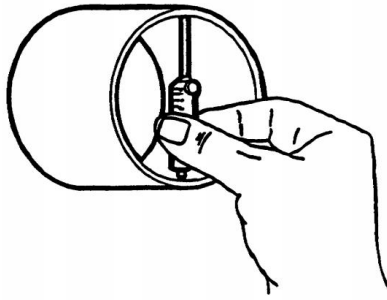

Fig 8
Now, look at the thimble scale. Find the line on the thimble scale that lines up with or has passed the revolution line in the barrel. In figure 8, this line is number 16 on the thimble scale. Each thimble scale line stands for 0.001 inch, so 16 of these equal 0.016 inch. Add this (0.016 inch) to what you have so far (0.225 inch) and the total measurement is 0.241 inch.
5.2.4 Inside Micrometers. You may choose to use an inside micrometer to make an inside measurement. This sub course will not show you the specific techniques for using an inside micrometer. We will, however, take a brief look at how to select the right inside micrometer extension rod You must choose an inside micrometer (figure 8, below) with a range that includes the approximate size you want to measure. This means you must consider the size of the micrometer unit, the range of its screw, and the length of the extension rods available. The smallest size you can check is equal to the size of the micrometer unit with its screw set to zero and its shortest anvil in place. The average inside micrometer set has a range from 2 to 10 inches. You use extension rods to cover the steps (by 1 inch increments) of this range. The micrometer set may also have a collar.